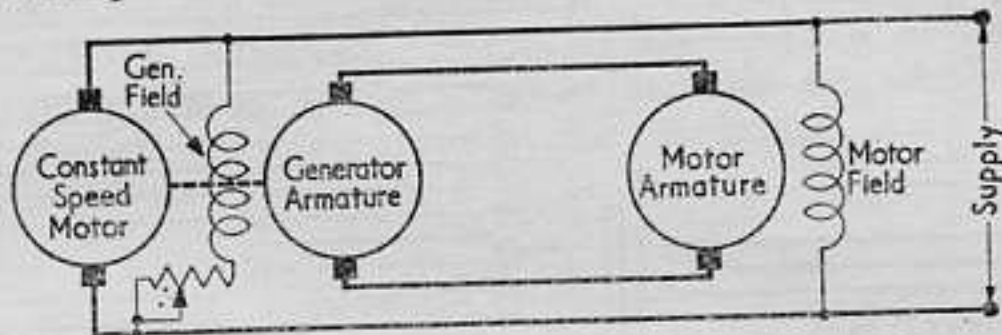

FIG. 5-33
90. This is a system of speed control which differs widely from those already mentioned. It is used for some forward capstans and crane hoist motors, where a powerful motor with a wide and sensitive speed control and reversal is required. The circuit in a simplified form is shown in Figure 5-33.